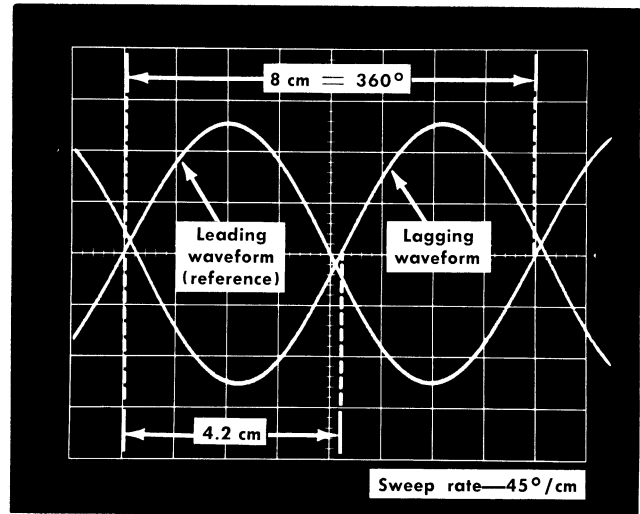

Fig. 2-17. Dual trace display with sweep calibrated at  $45^\circ/\text{cm}$ . Example:  $4.2 \text{ cm} \times 45^\circ/\text{cm} = 189^\circ$ .
5. Measure the horizontal distance between corresponding points on the two waveforms (see Fig. 2-17).